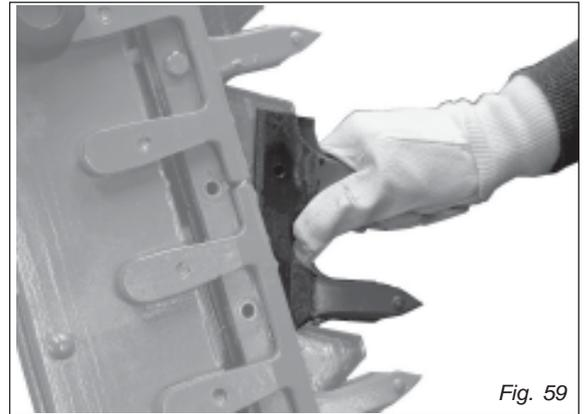

Fig. 59
- Remove all the teeth (Fig. 59).
- Slide out the tooth (Fig. 59), put in the new one and lock it in place with the screws. For this it would be advisable to use a torque wrench, respecting the values of 30 Nm.